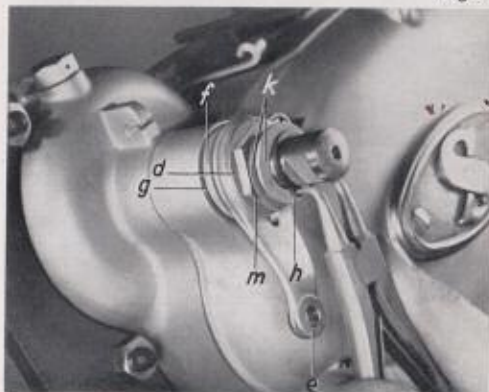

Fig. 21
- 3.7 Remove the brake lever from the bracket shaft. Using special pliers, remove the retaining ring (h). Remove the shims (k). Remove the split pin (d) from the nut M 20.8 (m), left-hand thread, and unscrew the nut. (Socket wrench SW 26). Remove the brake lever (e) and bearing disk (f), both internally geared. Remove the check plates or shims (g) under the bearing disk. (Fig. 21).